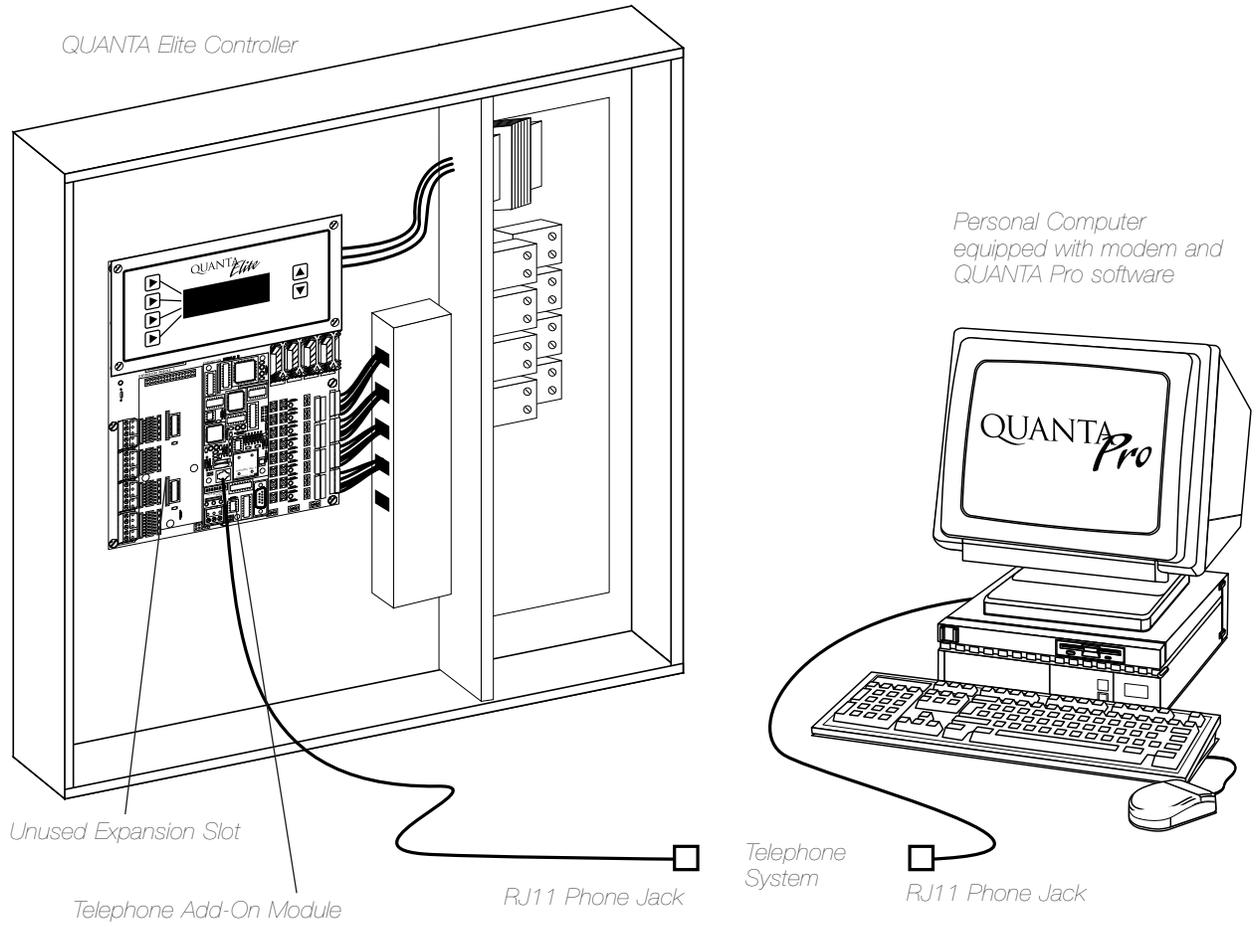

Figure A.2 – Remote Modem Control
1. If you are field-installing the module, power-down the controller and plug the module into an unused expansion slot on the controller CPU I/O board. (See Figure A-2.)